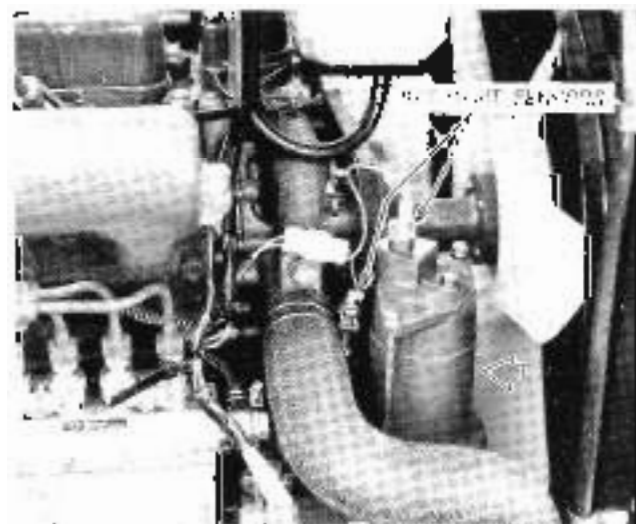

Figure 43 - Hydraulic System Filter
1. The new 100 micron hydraulic filter housing is shown in Figure 43.